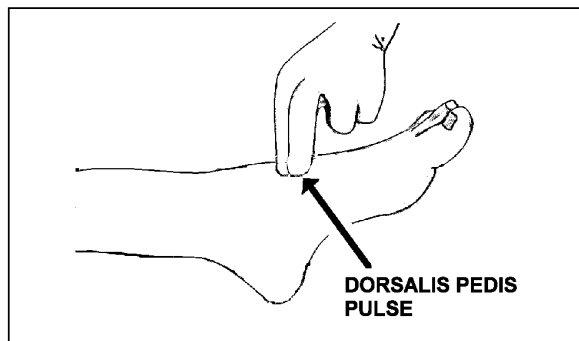

Figure 3-26
3. Assess motor, sensory, and distal circulation of the injured leg. (See Figure 3-26.)